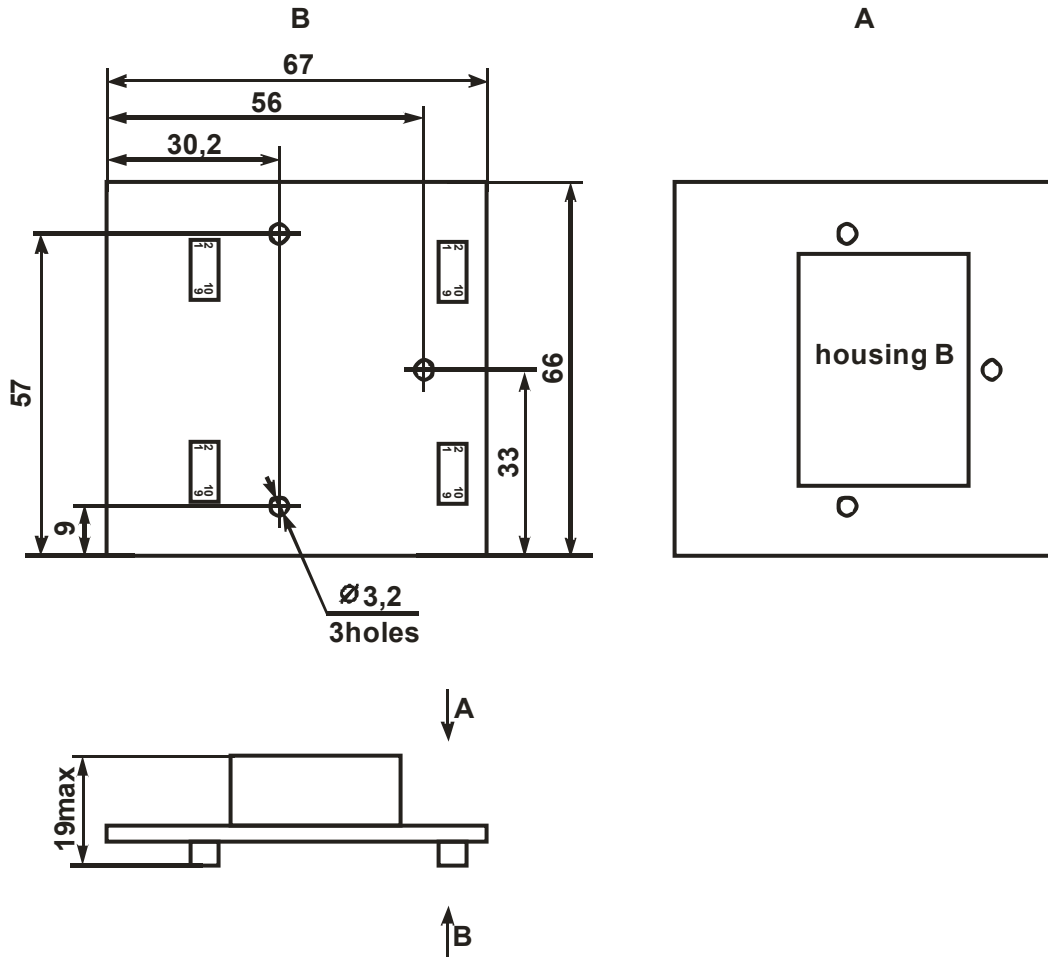
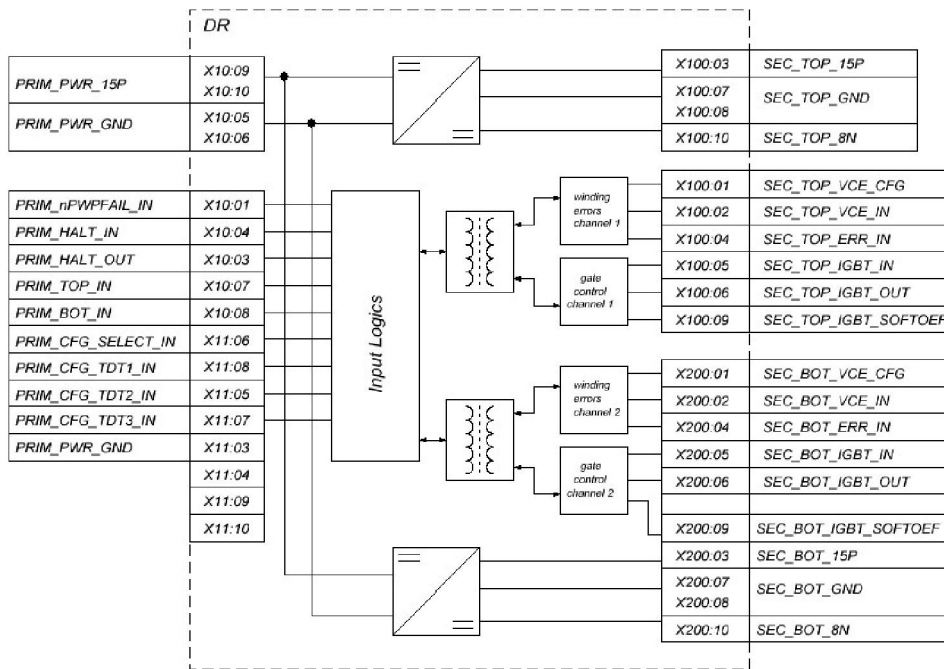

Figure 1 – Driver overall drawing
Figure 2– Driver functional circuits
3.2 Overall drawing is shown at Figure 1, driver functional is presented at Figure 2.